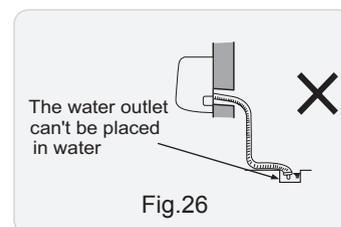

Fig.26
(2) The water outlet cant be placed in water in order to drain smoothly.(As show in Fig.26)